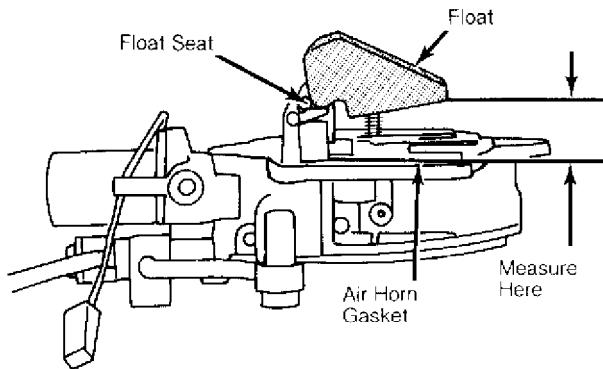

Fig. 1: Float Level Adjustment
- 2) Measure clearance between float and air horn gasket. See Fig. 1. Clearance should be .61-.65" (15.5-16.5 mm). If not within specifications, bend float seat to adjust.